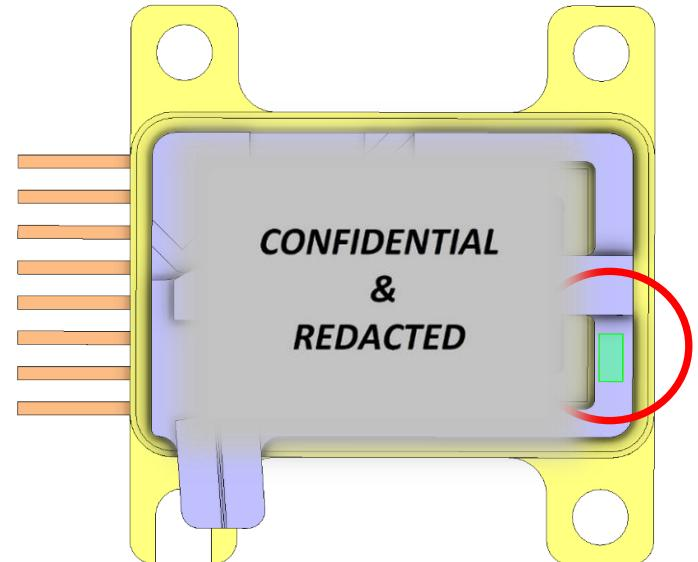

Figure 39 - L1 Angled Folding Mirror in Initial Position
- 10.3.4.2 Take one angled folding mirror (000000-00) with tweezers and place it on the L1 side of the macor platform in the location shown in Figure 39. Place it 1.5mm away from the center 'divider' on the macor platform